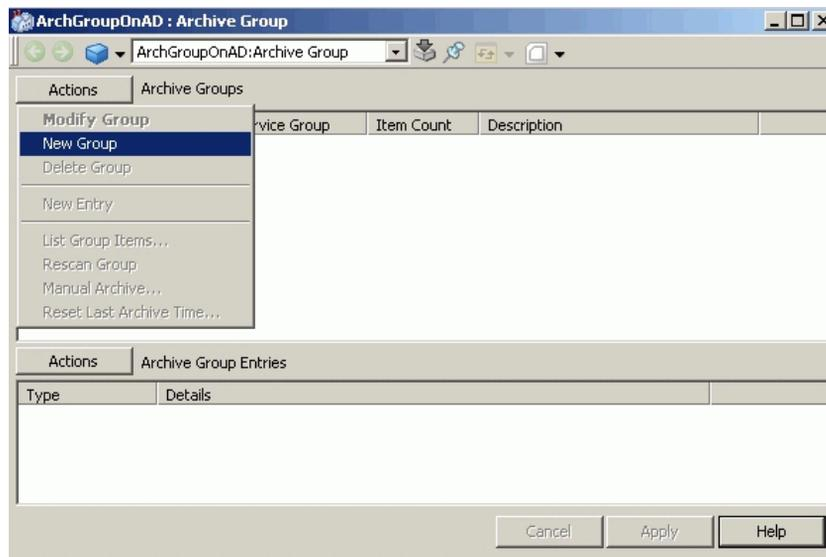

Figure 243. Adding an Archive Group
1. Right click inside the archive groups window (or click **Actions**) and choose **New Group**, Figure 243.